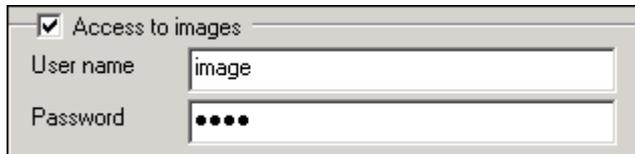

Fig. 31 Access to images group field on the LAN cameras tab
2. Mark the checkbox **Access to images** (see "Fig. 31", page 44).